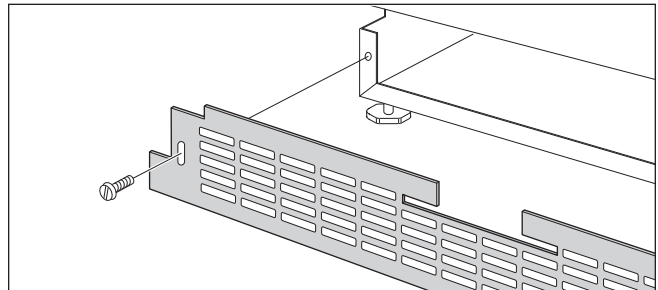

Figure 1. Kickplate Removal
1. Remove kickplate by extracting its mounting screws from each side, then pull kickplate forward (See Figure 1).